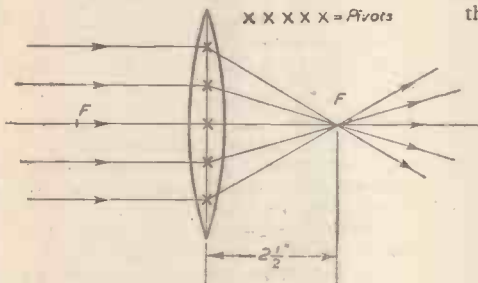

Fig. 1.—Working drawing for the lens model.
Take a sheet of foolscap paper, place it horizontally, and rule a line the full length along the middle. In the centre of the line draw a section of a converging lens about 3in. high (Fig. 1). The horizontal line is the "principal axis" of the lens. On it mark the two "focal points," F, F, each 2½in. from the centre of the lens. On one side of the lens draw four evenly-spaced rays, parallel to the principal axis (say, 6in. and 1.2in. above and below). On the other side of the lens
If we set up our model as in Fig. 1 it will represent a parallel beam of light from a distant source falling on a converging lens. This is what we used to do as schoolboys when we used a lens as a burning glass. The lens pulls the rays inwards so that they all pass through one point, the principal focus, F. A real image of the distant object is formed at that point. It is called "real" because the light really goes there and the image can therefore be caught on a screen. (The distinction between real images and virtual images is important; there will be more about this subject later.) Note here what is meant by the power of a lens; the greater the power, the nearer the focal point is to it.
(1) The power of a lens is equal to the vergence that it can give to a parallel beam, or give to cause a parallel beam. (Figs. 1 and 2.)
Look again at Fig. 1. The object has no vergence. The vergence of the image = the power of the lens.